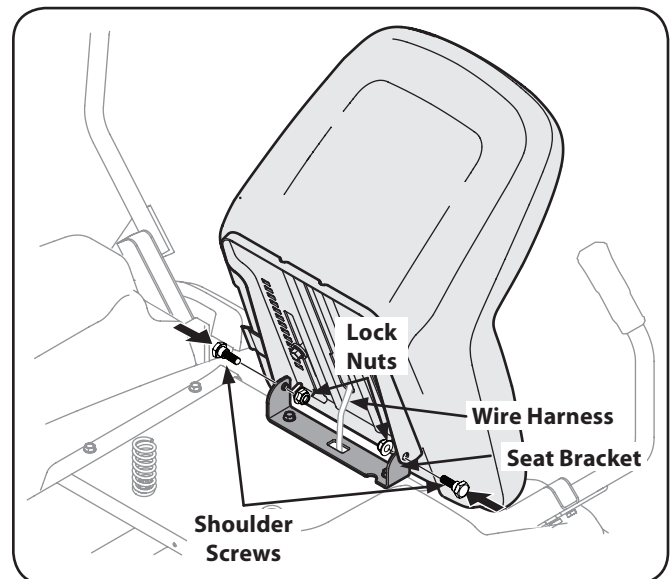

Figure 3-3
- Rotate the seat into position and secure the seat into place with the previously removed shoulder screws and lock nuts. Be careful not to crimp or damage the wire harness while installing the seat. See Figure 3-3.